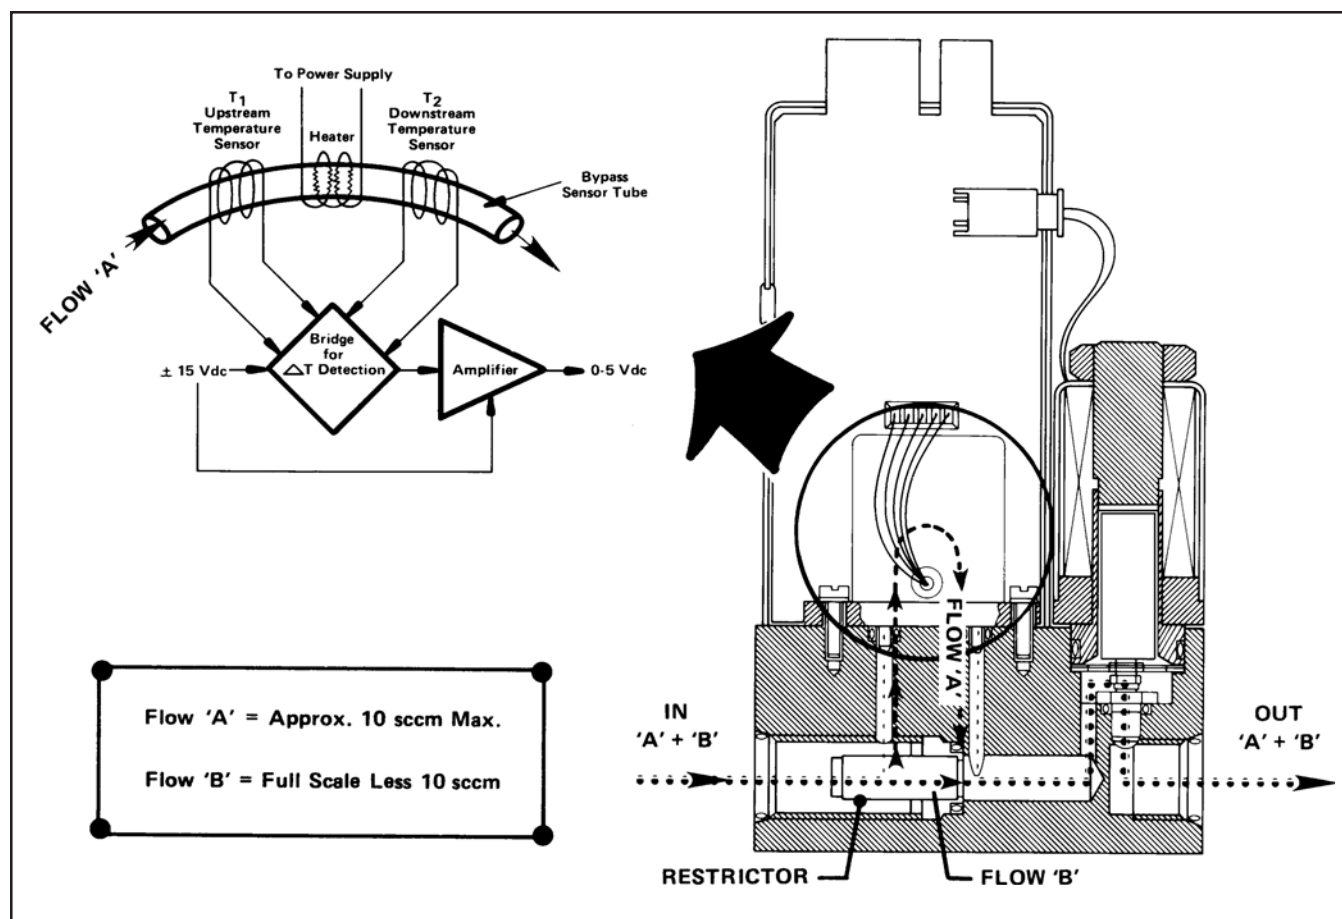

Figure 3-1 Flow Sensor Operational Diagram
A precision power supply provides a constant power heat input (P) at the heater which is located at the midpoint of the sensor tube. Refer to Figure 3-1. At zero, or no flow conditions, the heat reaching each temperature sensor is equal. The temperatures T1 and T2, therefore, are equal. When gas flows through the tube, the upstream sensor is cooled and the downstream sensor is heated which produces a temperature difference. The temperature difference T2-T1 is directly proportional to the gas mass flow. The equation is:
The flow restrictor shown in Figure 3-1 performs a ranging function similar to a shunt resistor in an electrical ammeter. The restrictor provides a pressure drop that is linear with flow rate. The sensor tube has the same linear pressure drop/flow relationship. The ratio of the restrictor flow to the sensor tube flow remains constant over the range of the meter. Different restrictors have different pressure drops and produce controllers with different full scale flow rates. The span adjustment, in the electronics, affects the fine adjustment of the controller's full scale flow.